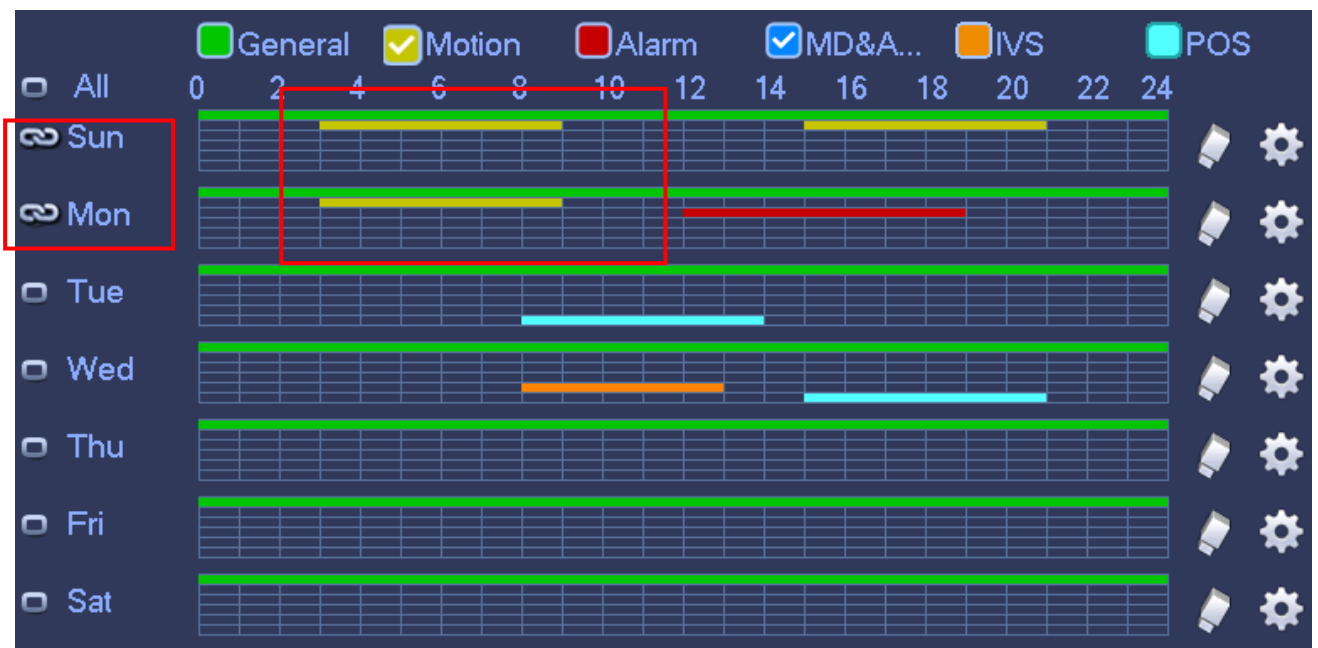

Figure 4-30
Step 3 Please draw manually to set record period. There are six periods in one day. See Figure 4-30.